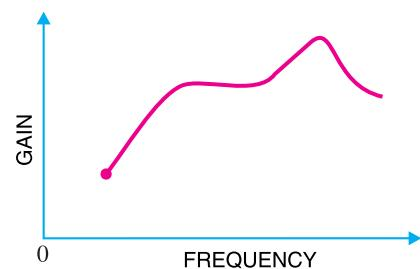

Fig. 11.16
**Frequency response.** The frequency response of a transformer coupled amplifier is shown in Fig. 11.16. It is clear that frequency response is rather poor i.e. gain is constant only over a small range of frequency. The output voltage is equal to the collector current multiplied by reactance of primary. At low frequencies, the reactance of primary begins to fall, resulting in decreased gain. At high frequencies, the capacitance between turns of windings acts as a bypass condenser to reduce the output voltage and hence gain. It follows, therefore, that there will be disproportionate amplification of frequencies in a complete signal such as music, speech etc. Hence, transformer-coupled amplifier introduces *frequency distortion*.